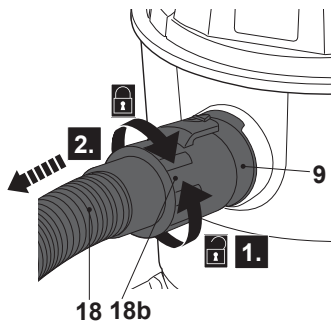

Fig. 15
- > Rotate the hose connector (18b) anticlockwise and pull it from the air inlet (9) to disconnect the hose (18) after use (Fig. 15).